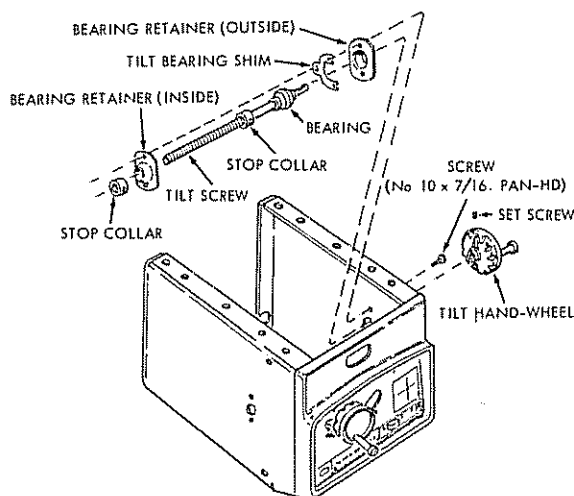

Figure 75
### 2. Installing Parts on Right-Hand Side. (See figure 75.)
- Insert the inner end of tilt screw through the hole in right-hand side of saw base (figure 75) then reach inside of base and slide the inner bearing retainer on the tilt screw, with flat face of retainer toward the tilt screw bearing. Start the stop collar on the threads and rotate it a few inches onto the tilt screw.